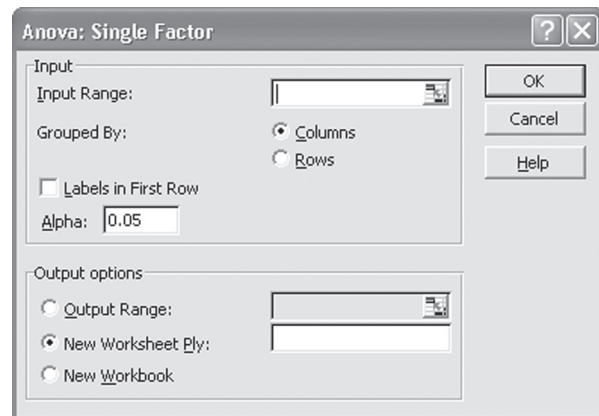

Figure R8.2 | ANOVA Window
4. Enter the range for the entire set of data in the **Input Range** space (Figure R8.2).